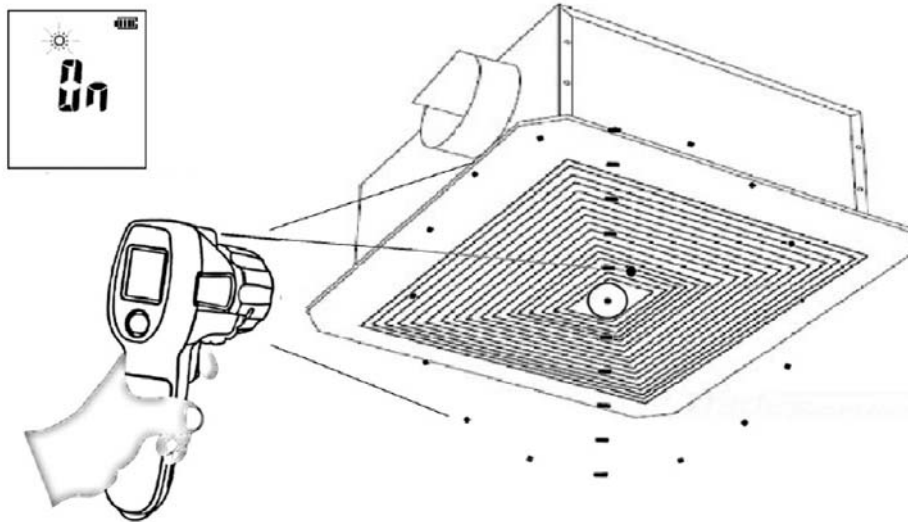

Fig. 19: Measuring output temperature of HVAC systems
3. Direct the white light beam (see Fig. 3 – part 1) out of the ventilation system (see Fig. 19) and carry out measurement as described above.